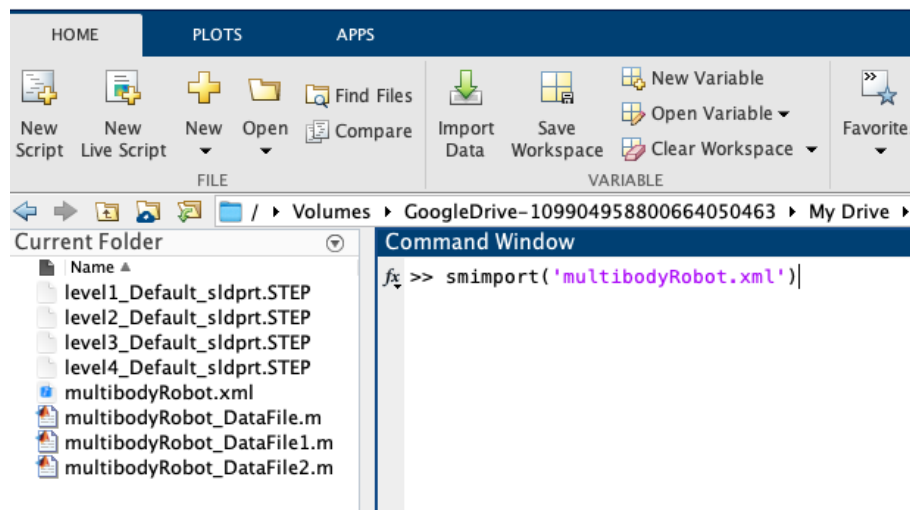

Figure 14: Importing multibodyRobot Assembly
2. In the command window, type the command “smimport(‘multibodyRobot.xml’)” and hit enter to issue the command. Figure 14 shows how the view will look for the command prior to hitting enter.